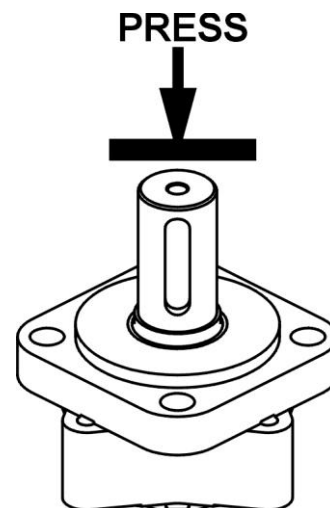

Fig.4
12. Fix Housing in a hydraulic press and push output shaft with bearing kit out of housing (see Fig.4).